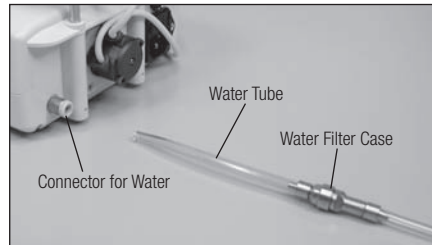

Fig. 3
- 2) Connect the filter side of the Water Tube deep into the water connector on the Varios Control Unit. (Fig. 3)